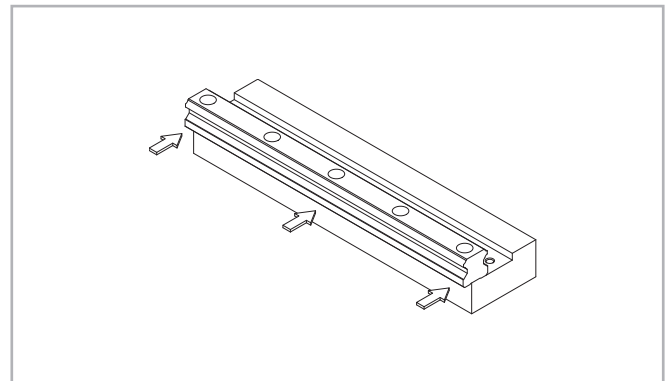
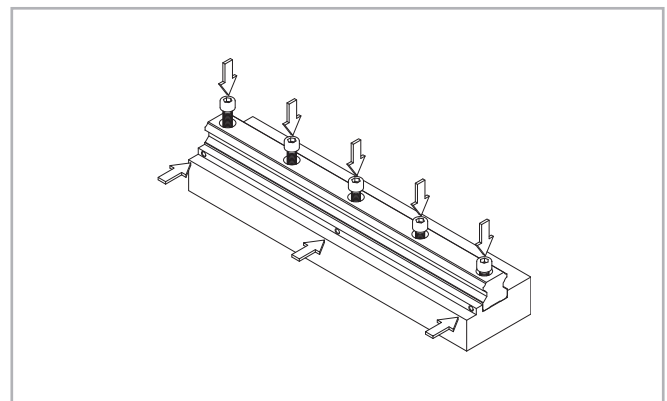

Fig. 56
Fig. 57
(2) Carefully lay the guide rail on the assembly surface (see fig. 56) and slightly tighten the fixing screws so that the guide rail lightly touches the assembly surface (align the guide rail along the shoulder edge of the assembly surface, see fig. 57).